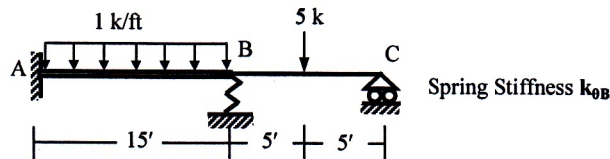

Fig. 10
12. For the beam loaded as shown in *Fig. 10*, use the Stiffness Method to calculate the rotation at joint B and vertical displacement of joint C, if B is supported by a circular foundation of radius 2-ft on sub-soil (half-space) [Given: Unit weight of soil = 0.12 k/ft², shear wave velocity (v_s) = 500 ft/sec, Poisson's ratio = 0.25, $EI = 40 \times 10^3$ k-ft²].